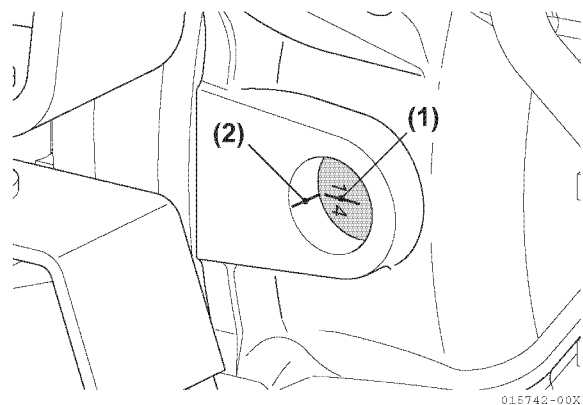

Figure 6-86
- Highlight the timing reference mark (**Figure 6-86, (2)**) on the flywheel housing. Highlight the TDC mark (**Figure 6-86, (1)**) on the flywheel.